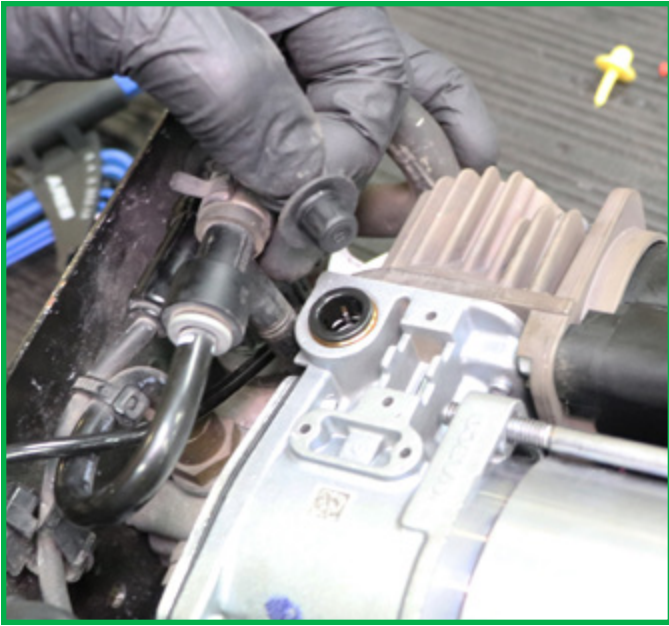

FIGURE 36
9. Remove the shipping plug from the new compressor and insert the existing intake/exhaust port in to the compressor firmly. (Figures 36, 37, 38)